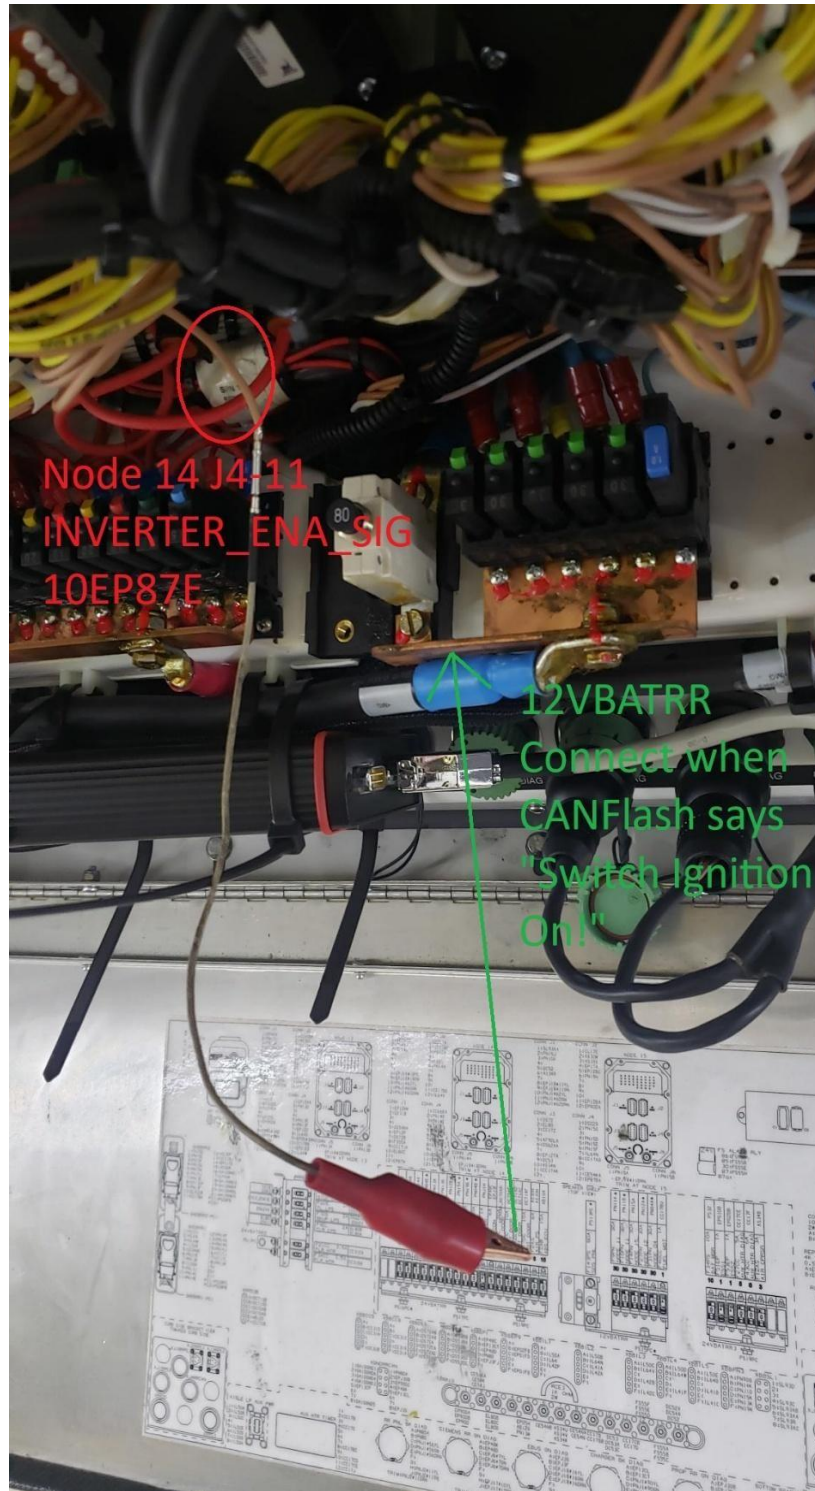

Figure 2: Connect jumper harness to wire 10EP87E
10. Attach terminal end of the second jumper to end of previously disconnected INVERTER\_ENA\_SIG wire (10EP87E). Do not connect alligator clip end, see figure 2 below.